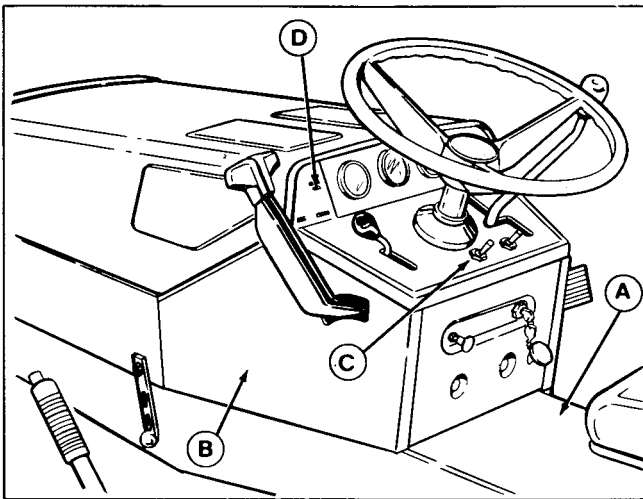

Figure 1.
1. Remove the tunnel cover (A, figure 1) by removing the two rear screws and loosening the two front screws.
2. Open hood and remove the two side panels (B, figure 1) (left panel shown) by removing three screws each side.
5. Drill a 1/2" hole in the dash for mounting the rear PTO switch. The location (C, figure 1) is centermarked for drilling. It may be necessary to file out the hole. If desired, drill a 3/8" hole and file out to accept switch.
10. Install rear PTO switch (C, figure 1) as follows. Insert the switch from bottom through dash. (To determine position, you must lift up on toggle to move forward to engaged position). Install nut from top and tighten. After installing, verify that you must pull upward to push switch forward.